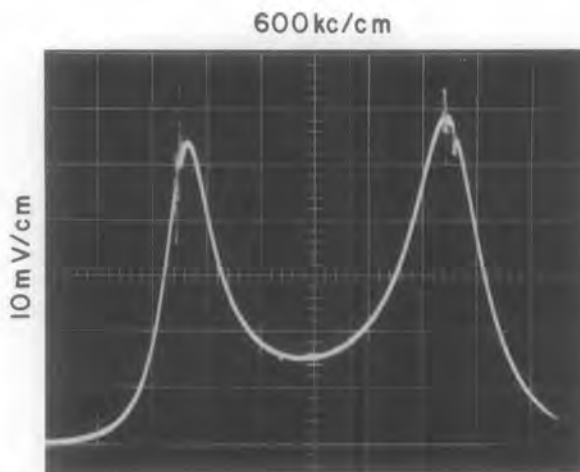

Figure 4-39. Typical Response, Signal Monitor
- (3) Set the sweep generator controls as follows:
- (4) Set the signal generator output frequency to 21.40 mc. Adjust the output level for a convenient marker size throughout the following procedure.
- (5) Rotate the signal monitor GAIN control fully clockwise.
- (6) Readjust the sweep generator controls to display the 21.4 mc marker and response.
- (7) Adjust A5A1L1, A5A1L2, and A5A1L3 for a response like that in Figure 4-39. The shaping amplifiers are stagger tuned with L3 affecting the middle of the response, L1 affecting the high frequency side, and L2 affecting the low frequency side.